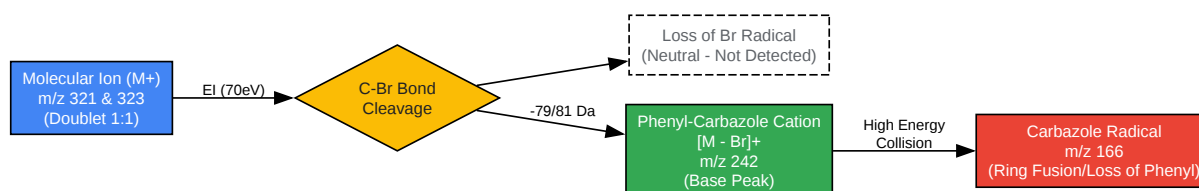

Figure 1: Primary Fragmentation Pathway of N-(4-Bromophenyl)carbazole
Caption: Figure 1 illustrates the dominant fragmentation pathway under Electron Impact (EI), showing the characteristic loss of the bromine atom to form the stable phenyl-carbazole cation.